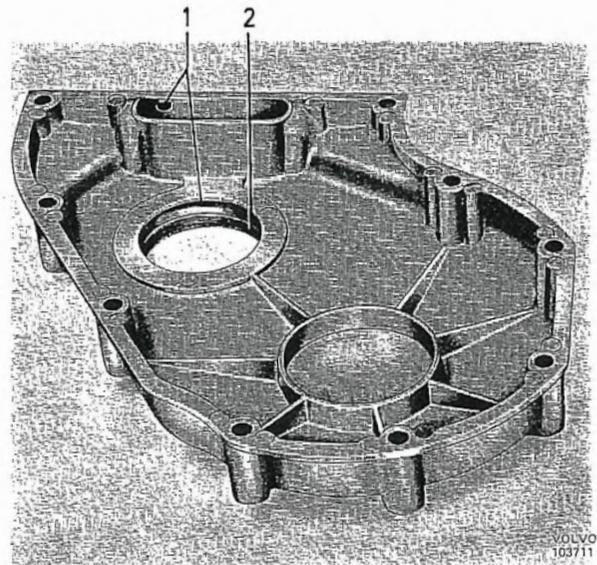

Fig. 2-37. Timing gear casing
4. Make sure that the gaskets are in good condition and that the drain hole is open and clean inside the timing gear casing which is to be fitted, see Fig. 2-37.